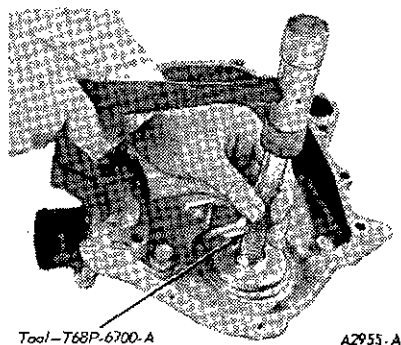

FIG. 50 Installing Front Oil Seal
1. Coat a new seal with grease. Install the seal with Tool T68P-6700-A (Figure 50). After installation, be sure seal spring remains in proper position.